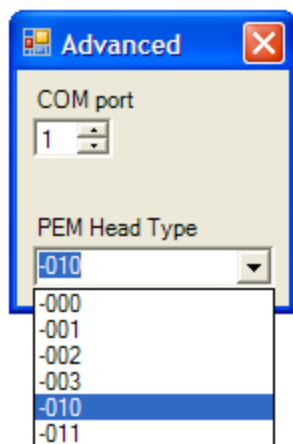

Figure 7.1 Head type selections
1. Click the 'Settings\Advanced' menu or click inside the 'PEM Head Type' box on the main PEM Control Software display. This shows the 'Advanced' selections. Now click the down arrow in the 'PEM Head Type' box to reveal all of the head type selections as shown in Figure 7.1.